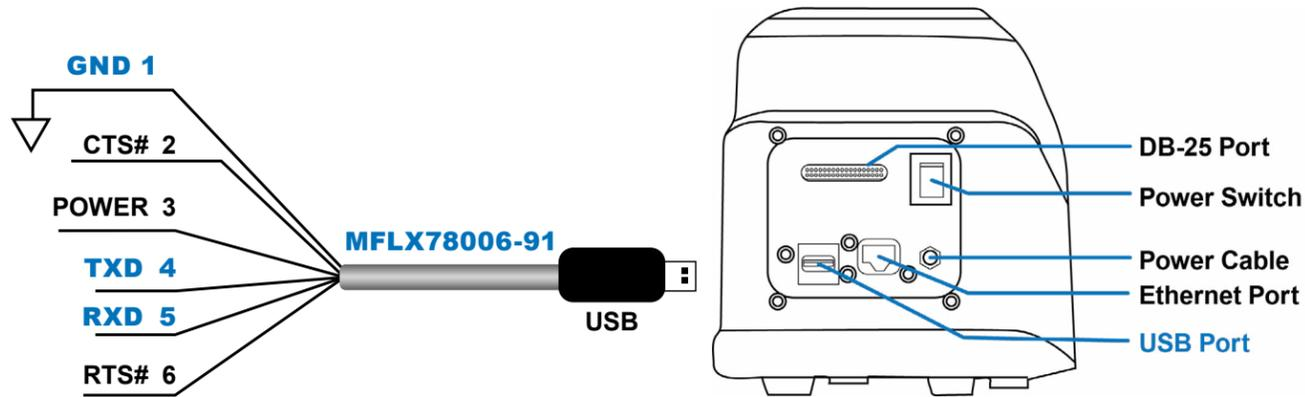

Figure 2: Microcontroller or PLC Host Interface for Pump Serial Control.
- If a microcontroller or PLC-based system that accepts UART TTL 3.3V signal is used to control the pump, the Masterflex **MFLX78006-91** serial cable is needed (see Figure 2 next page). Alternatively, a FTDI USB to UART TTL 3.3V cable can also be used; three wires—TXD, RXD, and GND—are needed.
On the pump side, a USB connector is used. On the microcontroller or process controller side, only three out of six wires are needed; GND, TXD, and RXD. The CTS, RTS, and Power wires (see Figure 2 above) are not used.